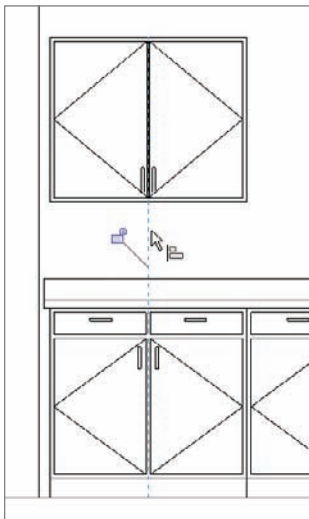

FIGURE 9.65 Aligning the wall to the base
6. Align the wall cabinet to the base cabinet, as shown in Figure 9.65.